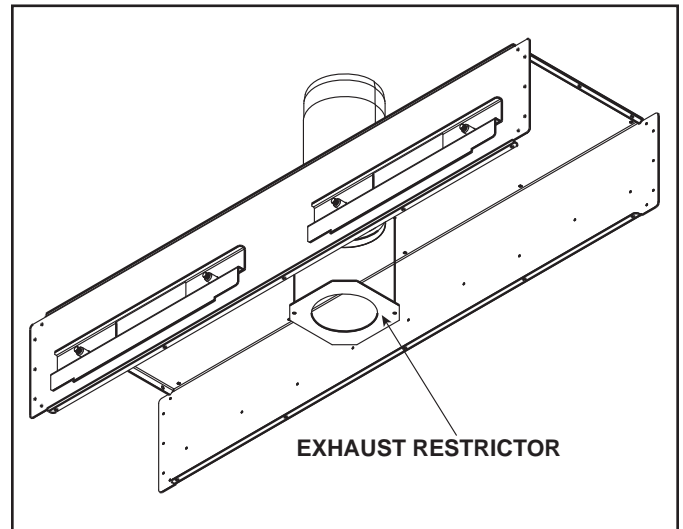

Figure 7.8 Exhaust Restrictor
1. Locate the two pilot holes in the inside firebox chamber as shown in Figure 7.8.
3. Use two 1/2 inch self-piercing screws to secure vent restrictor to firebox heat shield. See Figure 7.8.